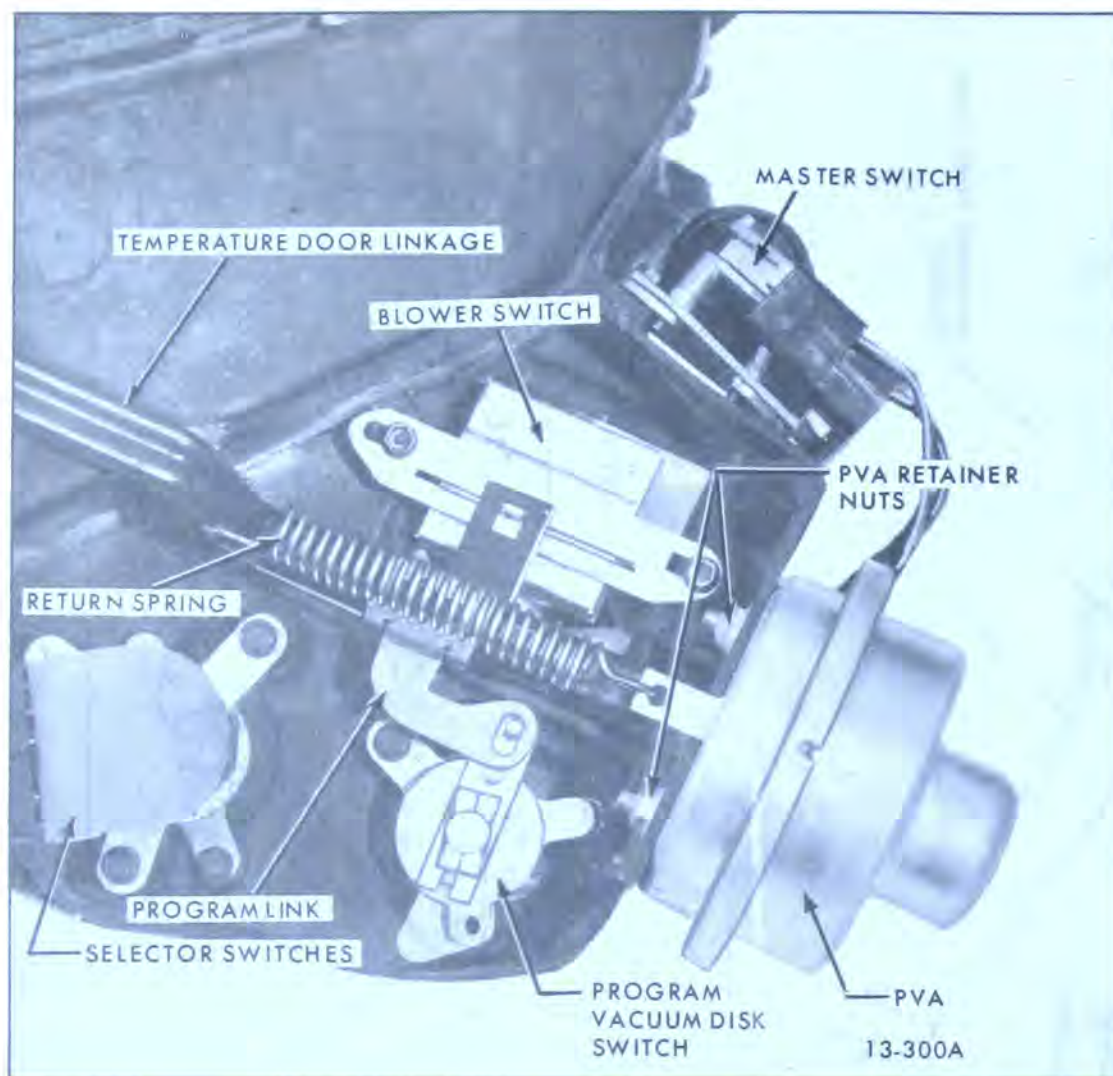
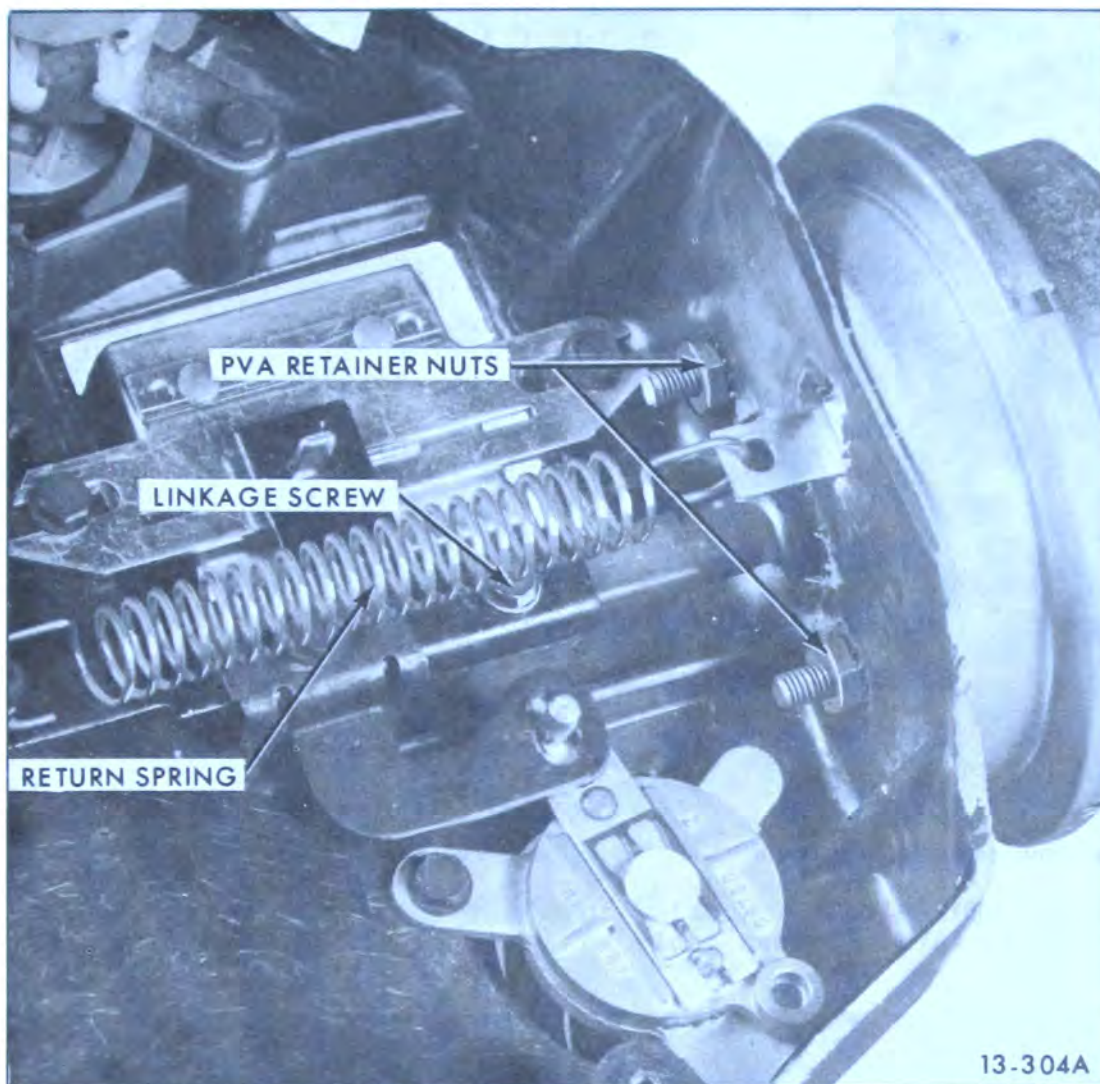

Figure 13-204 45-46-48000 Series PVA Installation
Figure 13-205 49000 Series PVA Installation
3. Disconnect brown vacuum hose from regulated vacuum port of TVR and plug end of hose. Disconnect source (black) hose from power side of PVA. 45-46-48000 Series see Figure 13-204. 49000 Series see Figure 13-205.